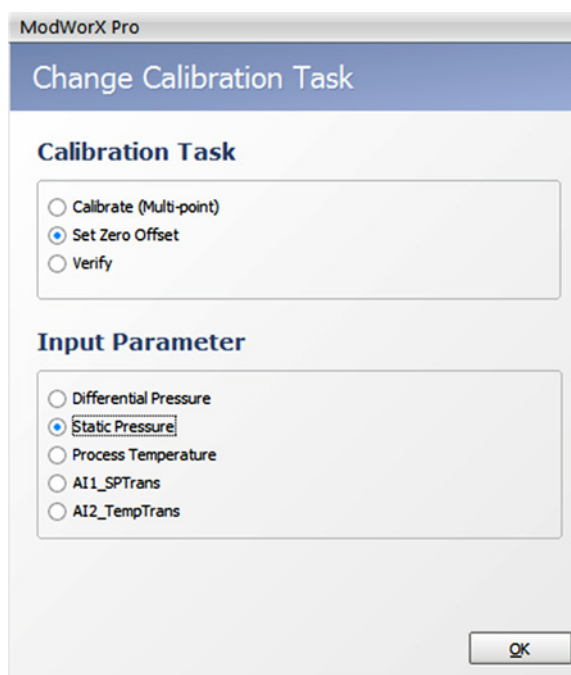

Figure 8.10
- On the Change Calibration Task screen, click **Set Zero Offset** as the Calibration Task, and click the input parameter of your choice. For this example, Static Pressure is the input parameter to be zeroed (Figure 8.10).